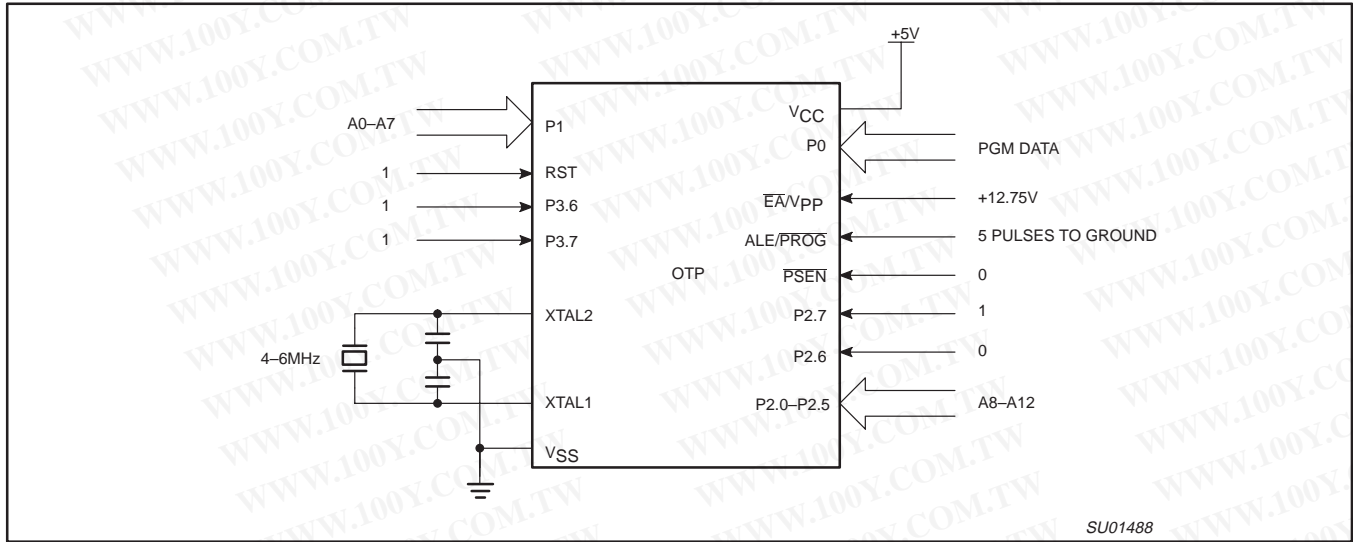
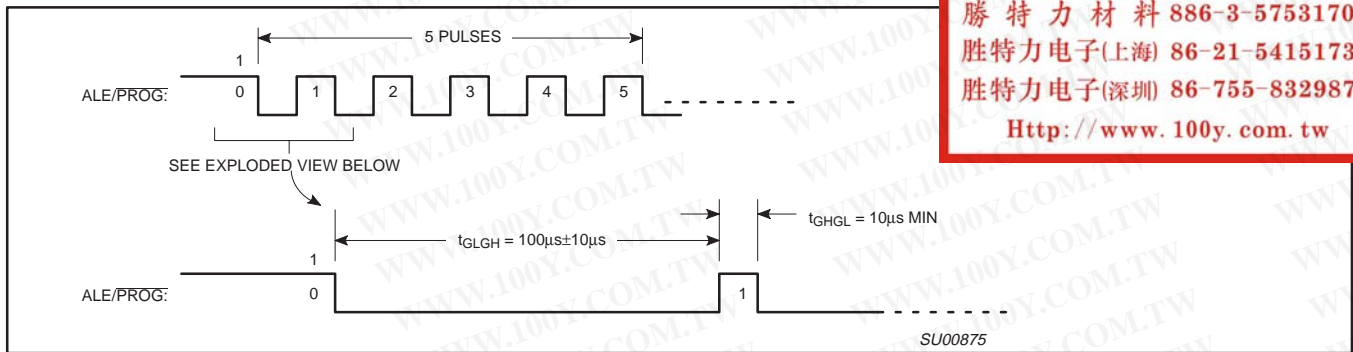
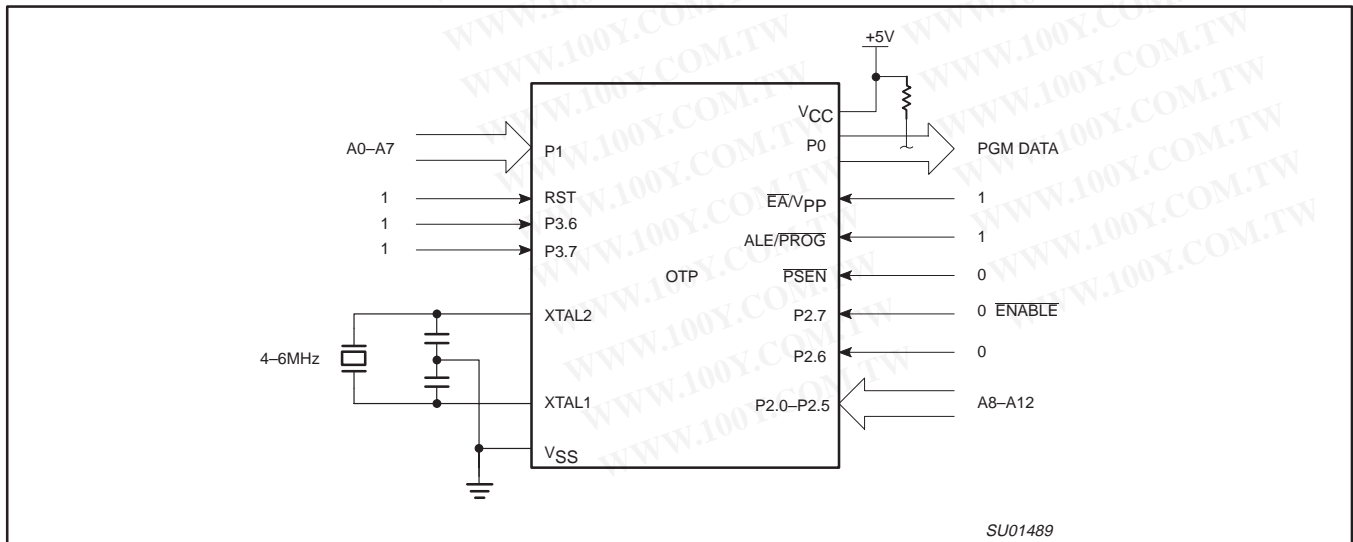

Figure 40. Programming Configuration
Figure 41. PROG Waveform
Figure 42. Program Verification
Table 9 shows the logic levels for reading the signature byte, and for programming the program memory, the encryption table, and the security bits. The circuit configuration and waveforms for quick-pulse programming are shown in Figures 40 and 41. Figure 42 shows the circuit configuration for normal program memory verification.
The setup for microcontroller quick-pulse programming is shown in Figure 40. Note that the device is running with a 4 to 6 MHz oscillator. The reason the oscillator needs to be running is that the device is executing internal address and program data transfers.
The address of the EPROM location to be programmed is applied to ports 1 and 2, as shown in Figure 40. The code byte to be programmed into that location is applied to port 0. RST,  $\overline{PSEN}$  and pins of ports 2 and 3 specified in Table 9 are held at the 'Program Code Data' levels indicated in Table 9. The ALE/PROG is pulsed low 5 times as shown in Figure 41.
If security bits 2 and 3 have not been programmed, the on-chip program memory can be read out for program verification. The address of the program memory locations to be read is applied to ports 1 and 2 as shown in Figure 42. The other pins are held at the 'Verify Code Data' levels indicated in Table 9. The contents of the address location will be emitted on port 0. External pull-ups are required on port 0 for this operation.
- \* FOR PROGRAMMING CONFIGURATION SEE FIGURE 40.
FOR VERIFICATION CONDITIONS SEE FIGURE 42.